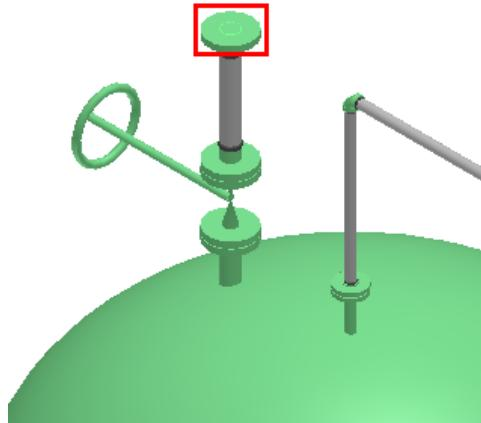

Figure 15: Flange Placed on the Pipe
16. SP3D prompts you to select type of the component to place. Select the **Flange** option from the **Type** drop-down list on the **Insert Component** ribbon and click **Finish** on the **Insert Component** ribbon to accept the placement of the flange. After placing the flange, the view of the model should resemble Figure 15.